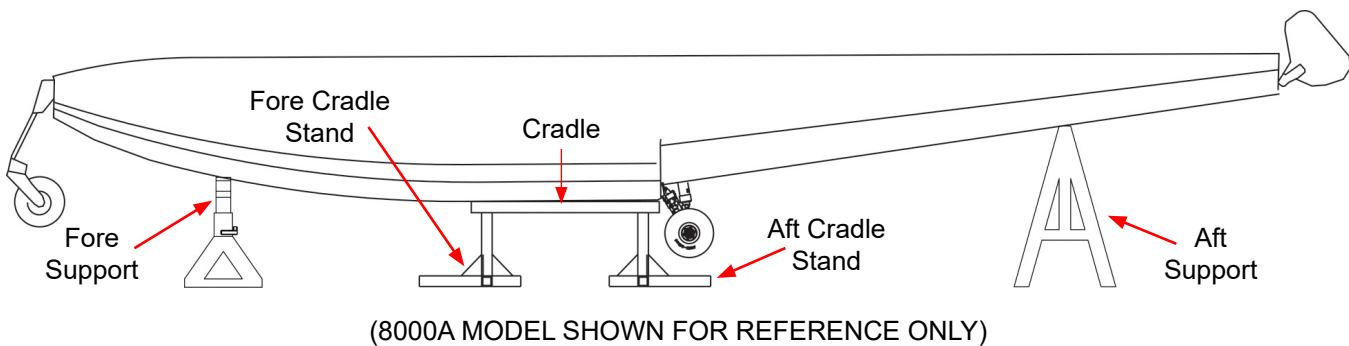

FIGURE 1-10: FLOAT SECURING LOCATIONS OVERVIEW
1. Raise aircraft high enough to place float cradle under floats as shown in Figure 1-10.
2. Lower aircraft onto float cradle as shown in Figure 1-10.
3. Place fore and aft supports as shown in Figure 1-9 and Figure 1-10.
4. Secure floats with fore and aft supports as shown in Figure 1-9 and Figure 1-10.
5. Remove all fore and aft supports as shown in Figure 1-9 and Figure 1-10.